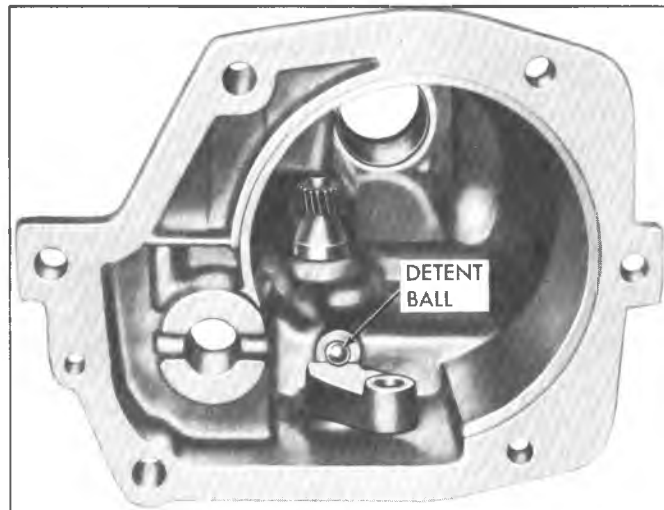

Fig. 11B--Installing Reverse Shifter Shaft and Detent Ball
5. Place detent ball on spring (fig. 11B) and, holding ball down with your thumb or a suitable tool push the shifter shaft back in away from case until it is directly over the ball and turn until the ball drops into detent on the shaft detent plate.